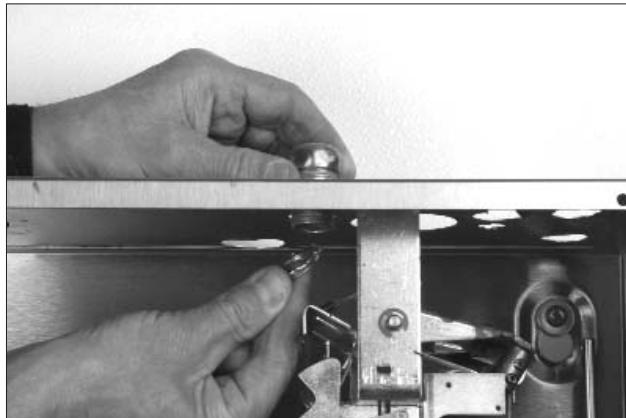

**FIGURE 79**
9. Snap the pull tab onto the pull knob so it is legible. See Figure 79.